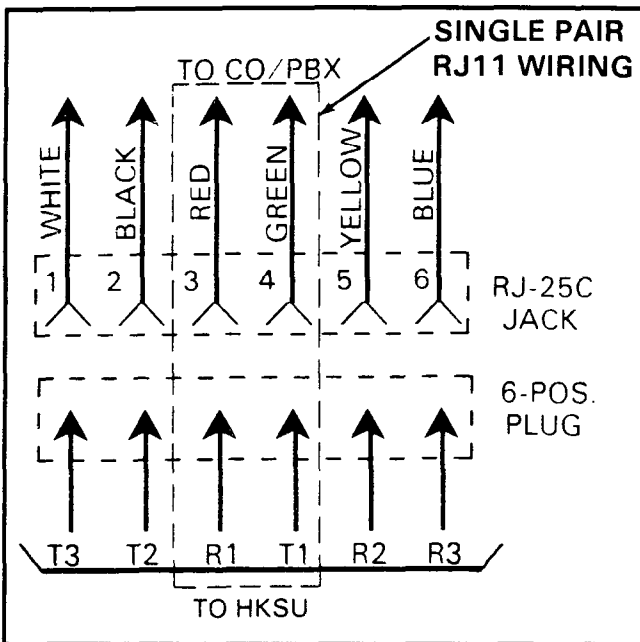
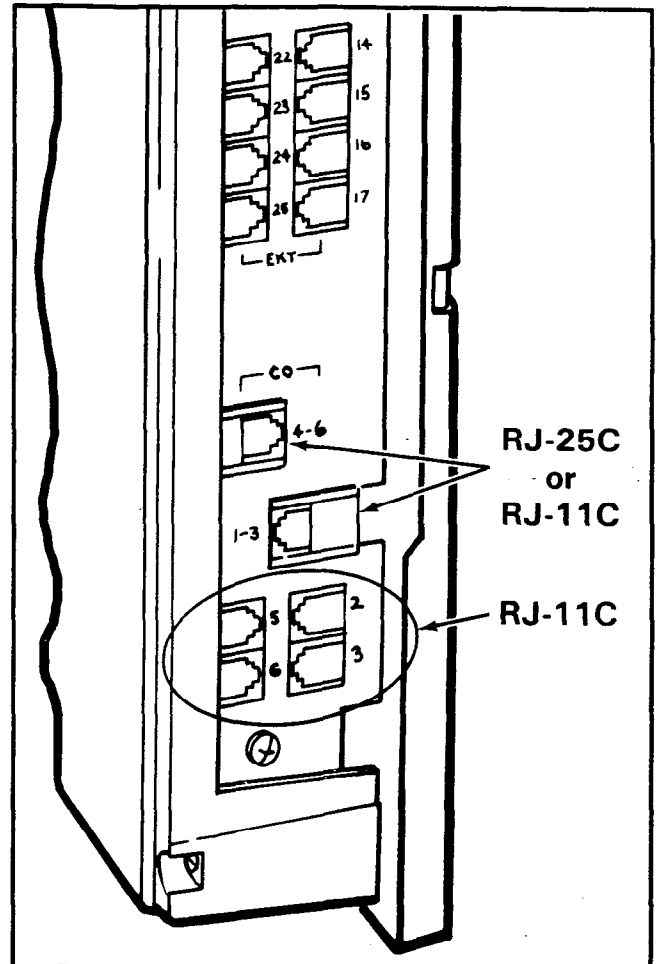

FIGURE 16
FIGURE 18—HKSU RIGHT SIDE PANEL
06.15 Various manufacturers of modular station blocks have employed different color codes to indicate the sequence of pairs in their blocks. However, the color code most commonly used is shown in Figure 16. Verify the configuration of your modular blocks before connecting the station cables.
(see Figure 16).
the **Strata V1e** system via 6-wire modular line cords (no longer than 25') that are connected directly to the 1-3 and 4-6 modular connectors on the right side panel (Figure 18). The opposite end of each cord then terminates directly into a locally provided RJ-25C jack (Figure 16).
06.42 The CO/PBX lines may also be connected via 2-wire modular line cords to the connectors 1-3, 4-6, 2, 3, 5 and 6 on the right side panel (Figure 18). The opposite end of each cord then terminates directly into a locally provided RJ-11C jack (Figure 16)